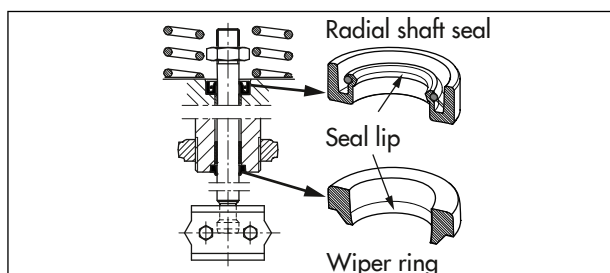

Fig. 16: Aligning the radial shaft seal and wiper ring
6. Use a suitable tool to mount the radial shaft seal. Observe the correct alignment of the radial shaft seal (see Fig. 16).
7. Use a suitable tool to mount the radial shaft seal. Observe the correct alignment of the radial shaft seal (see Fig. 16).